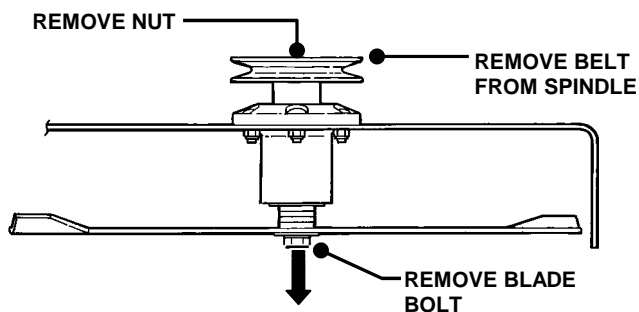

FIGURE 5.19
1. Remove belt. Loosen blade nut and remove. Allow blade bolt, washer, blade and four spacers to drop down out of the spindle housing. See Figure 5.19.